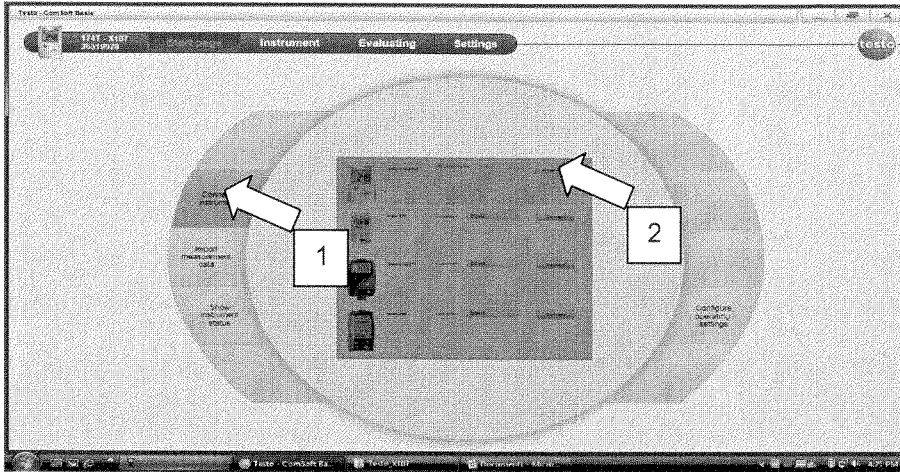

Fig 5.6: TESTO start page
Step 3: Select connect instrument (box 1) and then select connect (box 2). Refer fig 5.6.